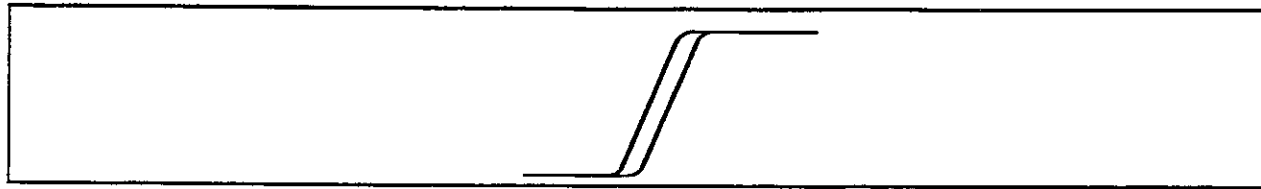

Figure 4-17. Ramp Period Variation.
- f. The reset portion should show more than one line, as in figure 4-17. The lines should not be separated by more than ten divisions on the display.